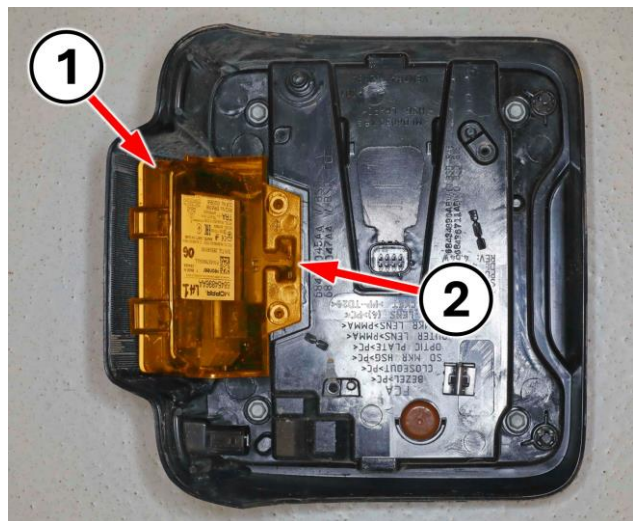

Figure 15 – BSM Module
15. **NEW lamp:** Align the “T” slot (2) and insert the BSM module (1) into the lamp (Figure 15).